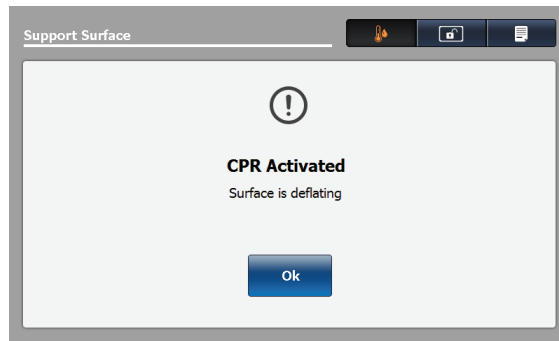

Figure 60 – CPR Activated — Surface is deflating
2. After you activate the CPR straps or CPR release pedal, the CPR Activated screen displays (Figure 60).